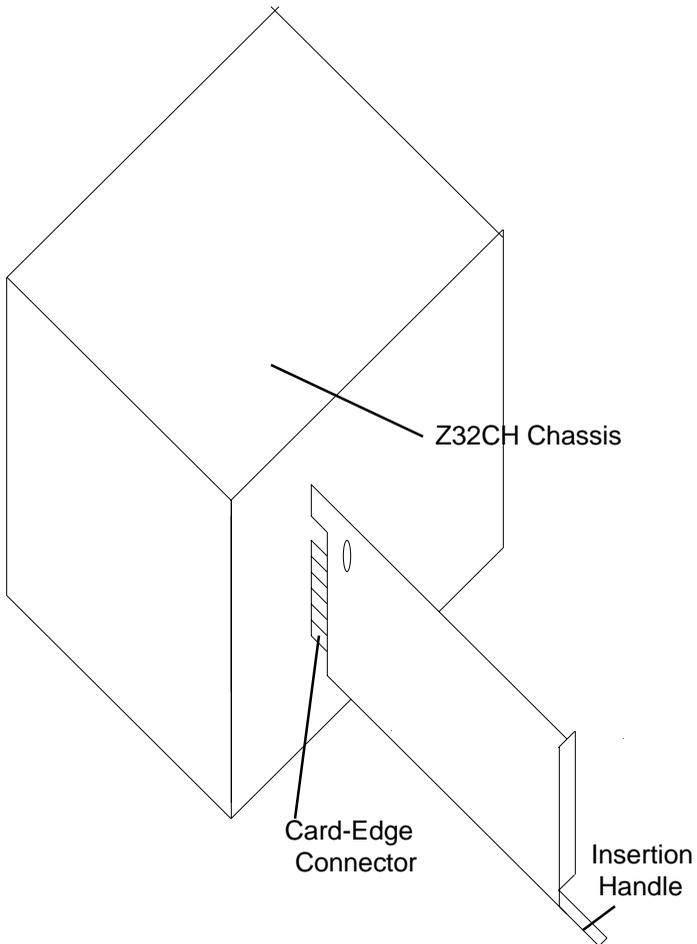

Figure 2-2. Sliding the Z34-RX Modem into the Z32CH Chassis
4. Slide the Z34-RX modem into slot one (1) (far left side) and be sure the modem is firmly seated. Refer to Figure 2-2.